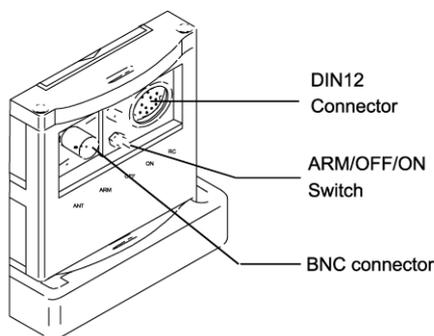

Figure 204: Installation, controls and connectors
- Connect the outside antenna to the BNC connector (Refer to Figure 204: Installation, controls and connectors) as shown Figure 2: ELT system description page 3.
- Connect the Remote Control Panel (or CS144) to the DIN12 connector (Refer to Figure 204: Installation, controls and connectors) as shown Figure 2: ELT system description page 3.
- Set the 3-position switch (Refer to Figure 204: Installation, controls and connectors) to ARM.
- Switch the ELT to OFF (Refer to Figure 204: Installation, controls and connectors).
- Disconnect the Remote Control Panel (or CS144) from the DIN12 connector (Refer to Figure 204: Installation, controls and connectors).
- Disconnect the outside antenna from the BNC connector (Refer to Figure 204: Installation, controls and connectors).